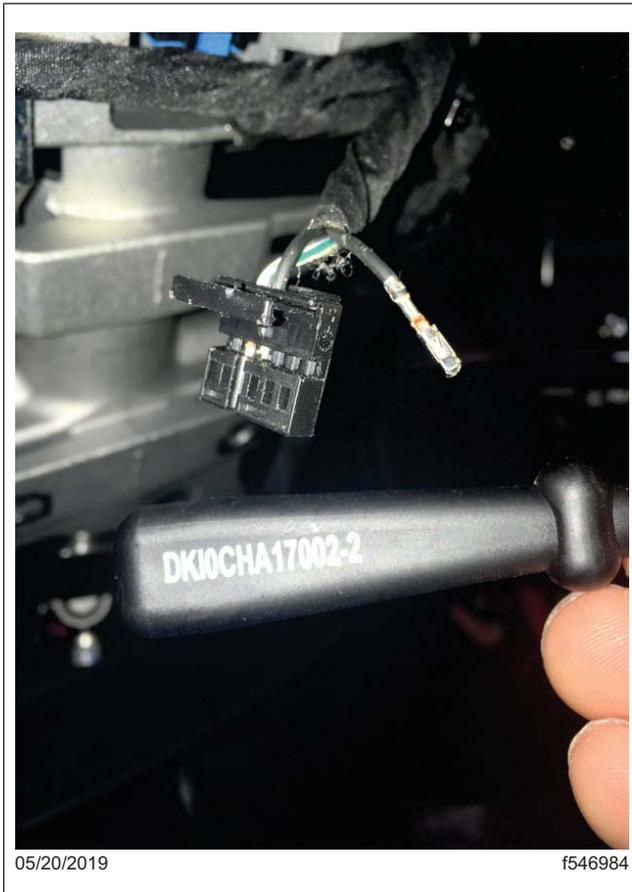

Fig. 13, Wire Removal Tool DDE DKIOCHA17002-2
- 16.3 Locate and remove the black ground wire from VPDM connector J6, pin E10 by removing the green terminal lock from the connector and then removing the wire/terminal while at the same time releasing the lock tab using tool DDE DK10CHA17002-2, or a similar tool. See Fig. 13 and Fig. 14.